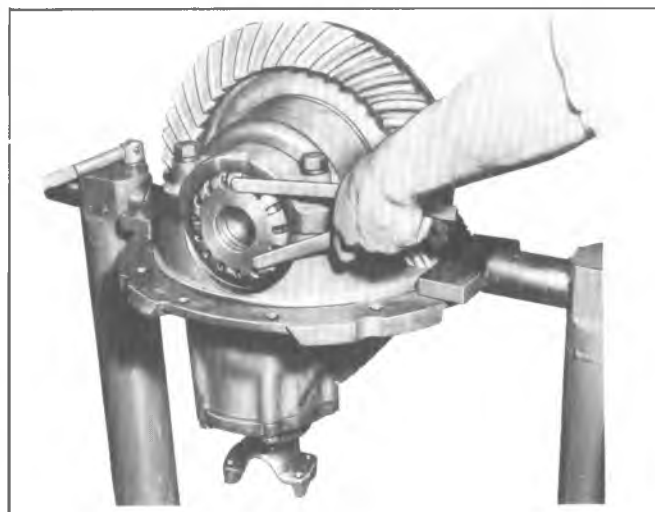

Fig. 9G--Backlash and Preload Adjustment
1. With differential bearing cap bolts loosened just enough to permit turning the bearing adjustment nuts with Tool J-0972, remove all lash between ring gear and pinion. See figure 9G.